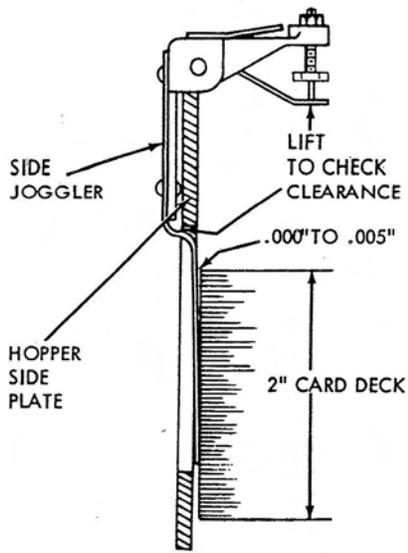

Figure 3-9. Side Jogger Adjustments
1. With a two-inch stack of cards in hopper, crank file feed drive until hopper jogger cam follower is on high dwell of cam. Set adjusting screw for $.000$ " to $.005$ " clearance between the top of deck and jogger arm. See Figure 3-9.
3. Lift side jogger arm at operating arm. See Figure 3-9. If interference exists, check distance between hopper side plates. See *Hopper and Picker Knives, Adjustment*.